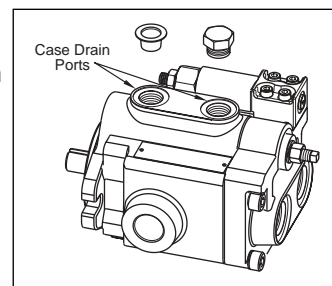

Figure 3
4. Check reservoir fluid level and fill as required with filtered fluid that meets or exceeds ISO 18/16/13 cleanliness level. Fill pump through either Case Drain Port (Figure 3).